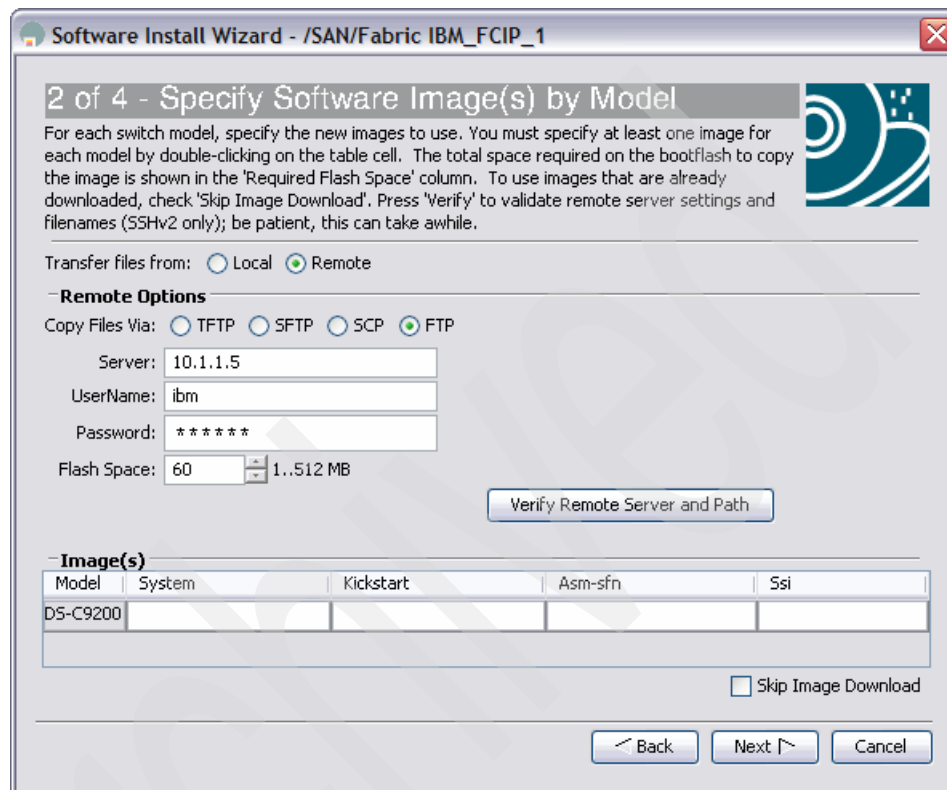

Figure 11-18 FM software update 2 of 4 with server credentials
9. Select the type of server to use (Figure 11-18). We use an FTP server. Enter the IP address of this server. Click **Verify Remote Server and Path** to ensure that you can reach your server.